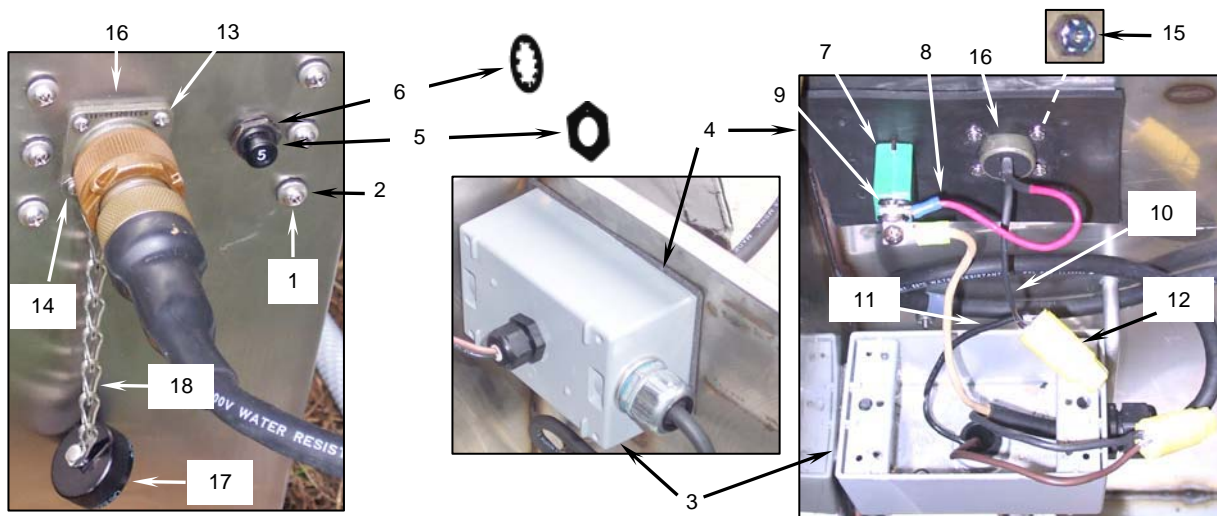

Figure 1. Removing the Grease Separator Weatherproof Box Gasket.
- a. Remove the six machine screws (**Figure 1, Item 1**) and sealing washers (**Figure 1, Item 2**) that secure the weatherproof box (**Figure 1, Item 3**) to the wall of the grease separator.
- b. Pull the box away from the gasket (**Figure 1, Item 4**) and the wall.
- c. Remove the lock nut (**Figure 1, Item 5**) and lock washer (**Figure 1, Item 6**) from the front of the circuit breaker (**Figure 1, Item 7**).
- d. Pull the breaker (**Figure 1, Item 7**) out of the grease separator enclosure.
- e. Tag and disconnect the red power connector wire (**Figure 1, Item 8**) from the circuit breaker terminal (**Figure 1, Item 9**).
- f. Tag the black connector wire (**Figure 1, Item 10**) and the black pump wire (**Figure 1, Item 11**). Remove and discard the wire nut (**Figure 1, Item 12**) and separate the wires.
- g. Remove the four screws (**Figure 1, Item 13**), one flat washer (**Figure 1, Item 14**), and four self-locking nuts (**Figure 1, Item 15**) that secure the electrical connector (**Figure 1, Item 16**) to the grease separator enclosure.
- h. Remove and retain the connector cap (**Figure 1, Item 17**) and chain (**Figure 1, Item 18**).
- i. Pull the connector (**Figure 1, Item 16**) out of the grease separator enclosure.
- j. Remove and discard the old gasket (**Figure 1, Item 4**).